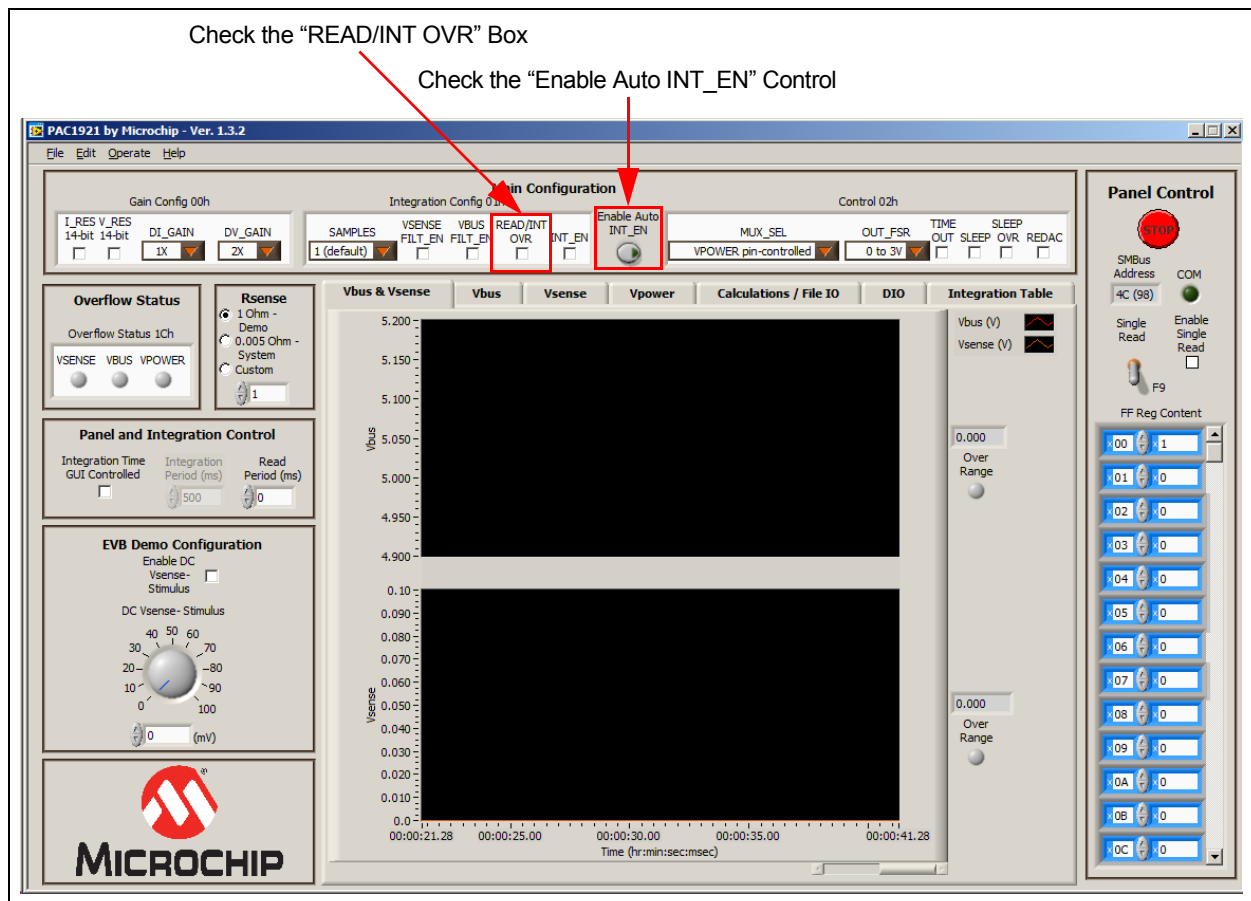

FIGURE 4-18: Pin-Controlled Integration, No Gain.
4. Observe the plots on the **Vbus & Vsense** tab, as shown in Figure 4-18. The evaluation board demo V_{BUS} is ~5.1V and V_{SENSE} is ~0.04V.